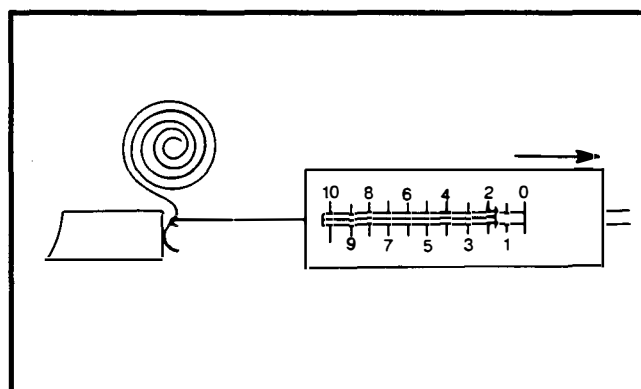

FIG. L-5 BRUSH SPRING TENSION
- c) Examine the condition of the brush springs. Make sure the spring coils are uniform and the springs do not appear discolored which could indicate heating that has caused loss of spring quality. If these or other signs of spring damage are evident, replace the spring or use a small spring scale (FIG. L-5) to see if the spring requires one pound or more force to lift it at the point of contact with the worn brush.